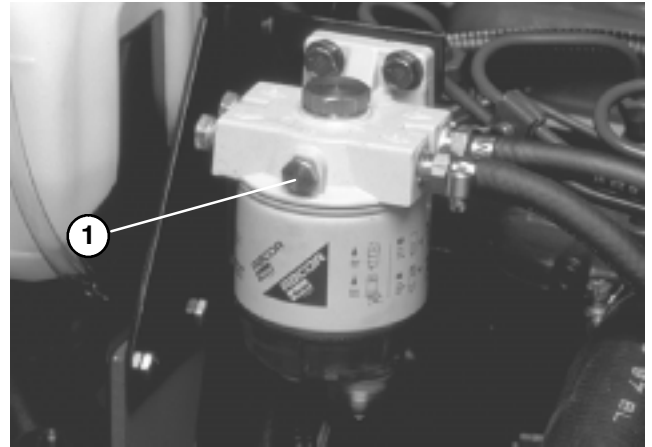

Figure 25
BLEEDING FUEL SYSTEM (Fig. 25 – 27)
2. Loosen air bleed screw on top of fuel filter/water separator (Fig. 25).